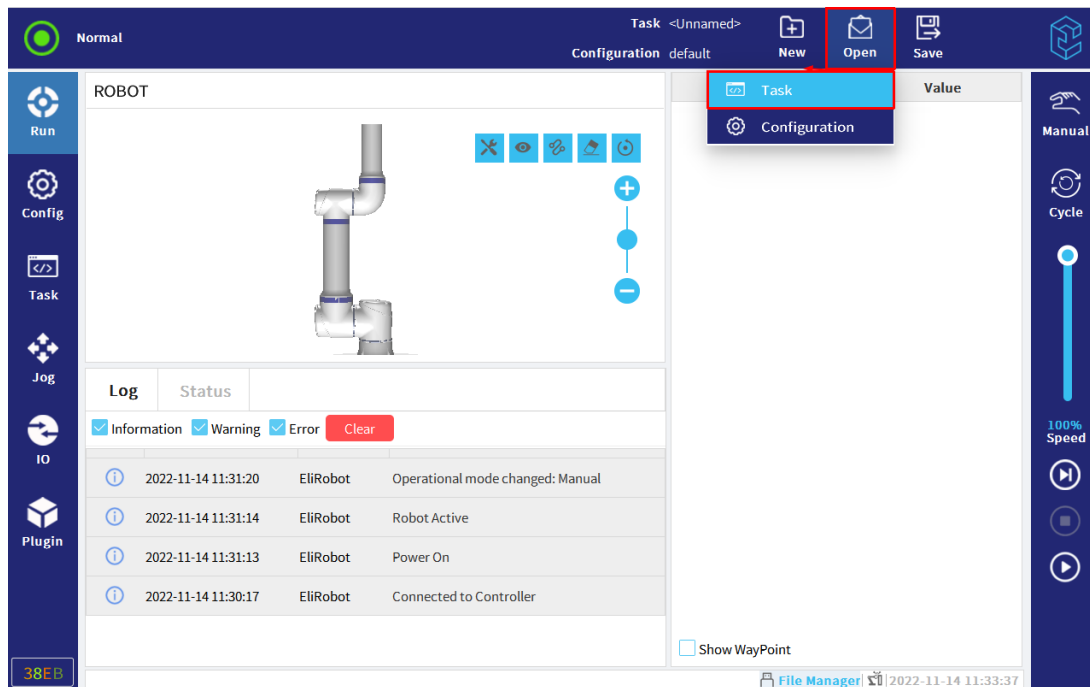

Figure 3-9 : Open task
1. In task and configuration manager, click "Open" and then select "Task", as shown in **Figure 3-9**.